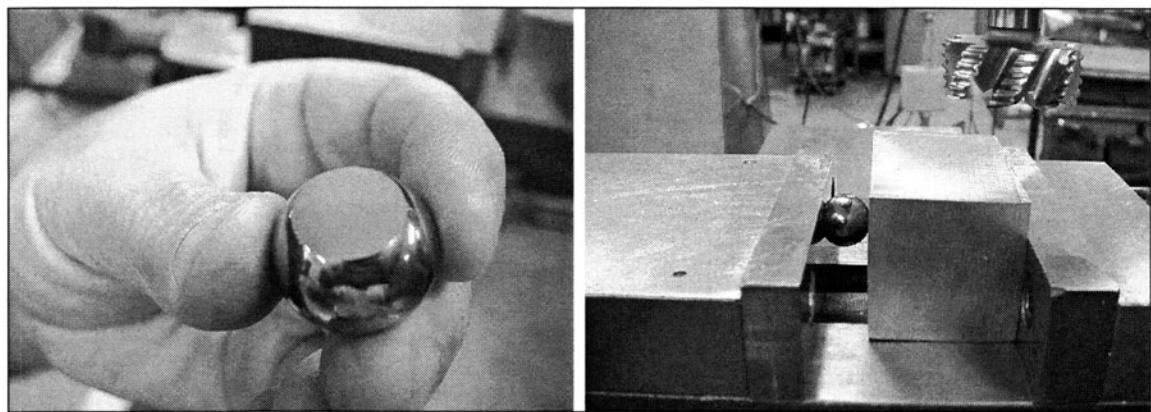

FIGURE 12-2 A modified ball bearing is used to apply pressure to the center of rough sawed stock.
1. *Use a modified ball bearing to hold rough sawed stock in your milling machine vise. (See Fig. 12-2)*